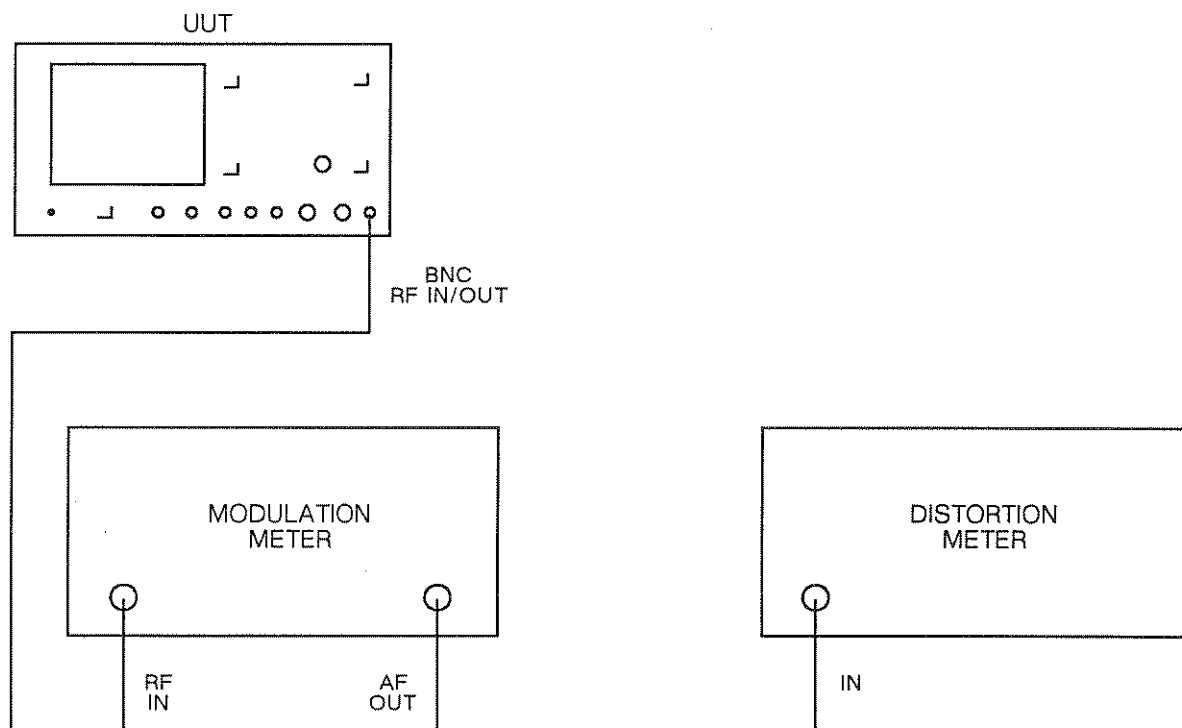

Fig. 5-22 Test equipment connections for RF generator AM and FM distortion
- (1) Connect the equipment as shown in Fig. 5-22.
- (2) Set the UUT to RX, RF GEN, carrier frequency 100 MHz, BNC output socket, level 0 dBm, FM frequency 1 kHz sine wave, modulation level 25 kHz, distortion/SINAD/SN off.
- (3) Set the modulation meter to monitor FM with 0.3 to 3.4 kHz band-pass filter selected.
- (4) Check that the FM deviation indicated on the modulation meter is within $\pm 7\%$ ± 10 Hz.
- (5) Repeat the above at random deviations between 0 and 25 kHz, and random carrier frequencies between 0.5 and 1000 MHz.
- (6) Repeat for modulation rates between 50 Hz and 15 kHz and check that the modulation meter deviation reading is within $\pm 10\%$. Ensure that the correct filters are selected on the modulation meter according to the modulation rate being used.